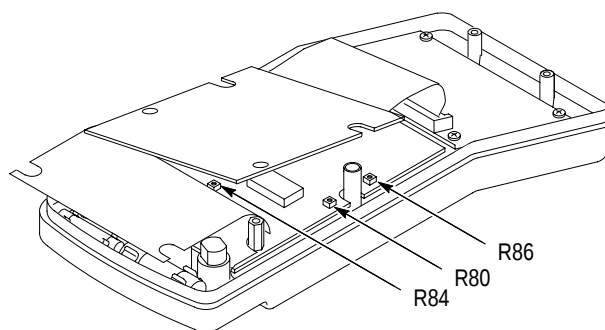

Figure 4: Adjustment Locations
7. Adjust R80 to align the trace to the display center line. See Figure 4 for the adjustment location.